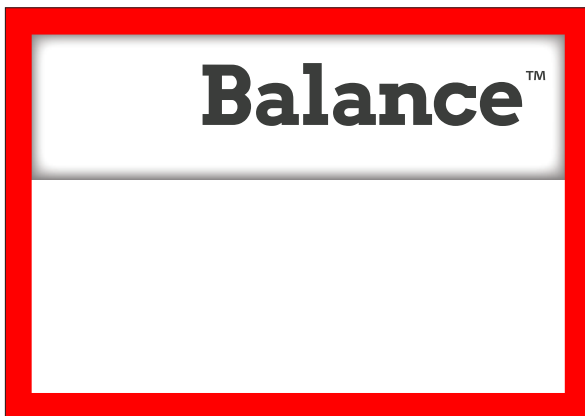

Figure 37 - Press To Correct For Excessive Residual Unbalance
1. After correcting for dynamic unbalance, and excessive residual unbalance is detected over tolerance, then a PUSH icon button will display on the dashboard (figure 37). Press the button.